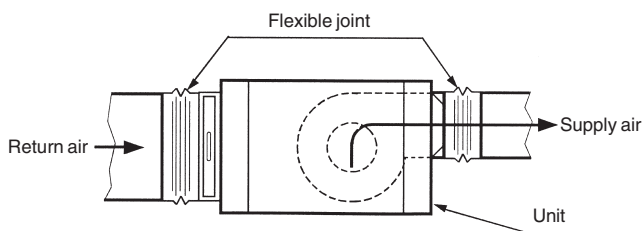

Fig. 36 - Side view
- At the points where the ducts join the unit, it is recommended to use flexible connections which absorb vibrations, prevent noise inside the ductwork and allow access to the unit (see Fig. 36).